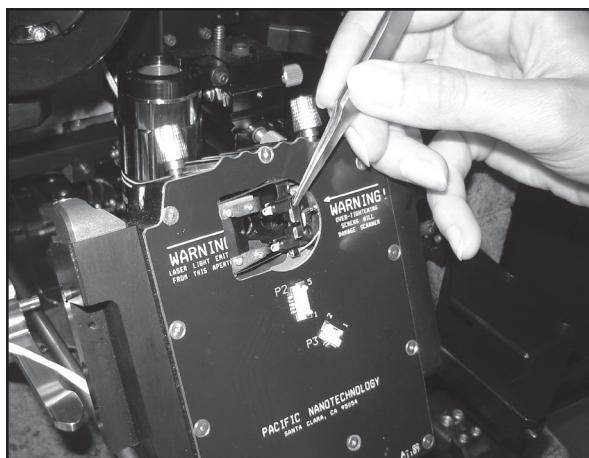

Figure 3.14: Removing the Probe
- Use tweezers to grasp the metal plate as shown in Figure 3.14.